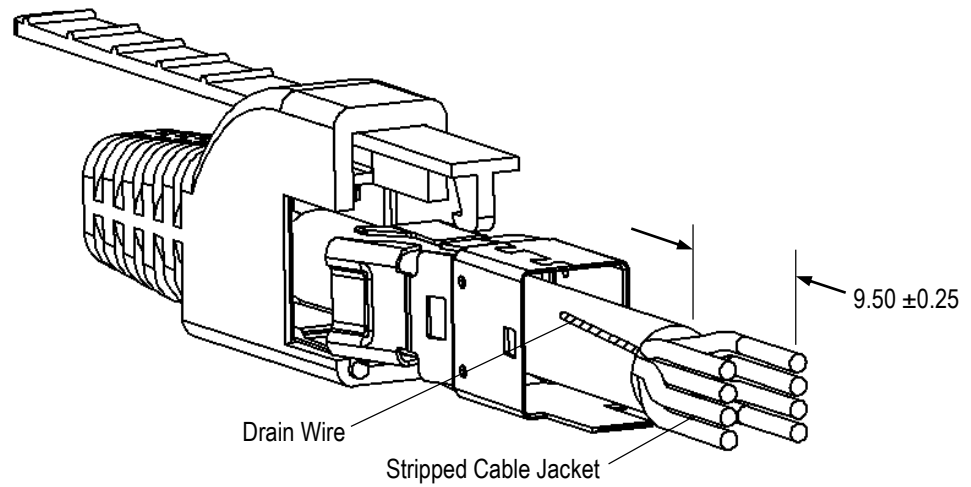

Figure 4
- Strip the cable jacket to the dimensions shown in Figure 4.